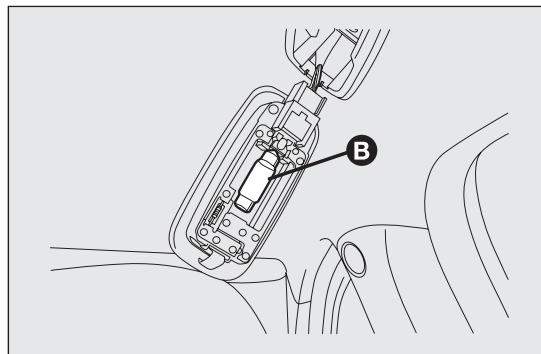

fig. 179
- ❑ replace bulb B fig. 179 releasing it from the side contacts and making sure the new bulb is correctly fastened between the contacts.